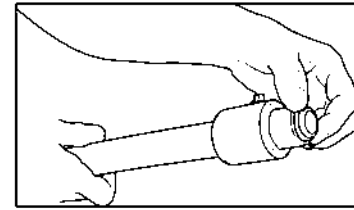

Figure: 4-53
- Remove adapter and split rings from fitting. Attach adapter to equipment. Slip coupling and nut over end of pipe all the way to expose first corrugations of pipe. Insert split rings into first corrugation as shown. Figure: 4-53